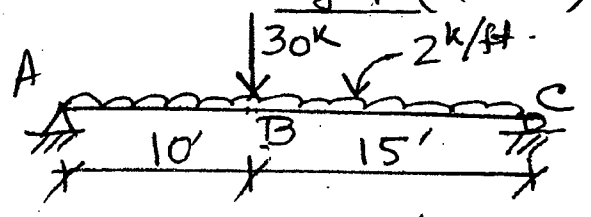

Fig. 5 (Q. no. 5)
5. Compute vertical deflection at "B" (point of concentrated load) due to the loads shown in Fig. 5. Assume $E = 30,000$ ksi, $I = 200$ in⁴ for segment "AB" and $I_2 = 300$ in⁴ for segment "BC".